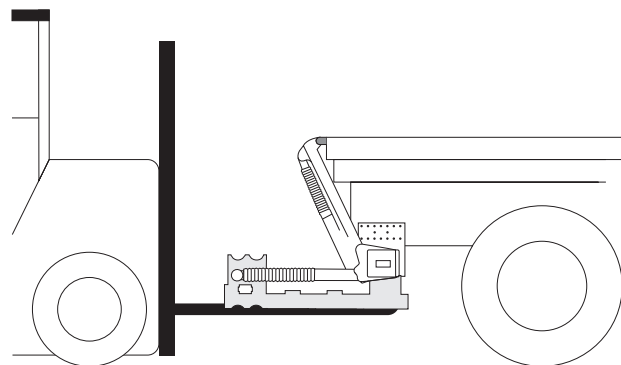

Figure 28. Use the lift's packaging and a forklift.
6. The support frame should be positioned as high as possible within the specified C dimension. Adjust the frame to the ideal height under the chassis. Use the lift's packaging and a forklift, See Figure 28. The frame must be positioned parallel with the floor of the vehicle body and must not be in contact with the vehicle frame; there must be a few millimetres of play. If necessary, adjust the angle of the arms by carefully operating the lift.